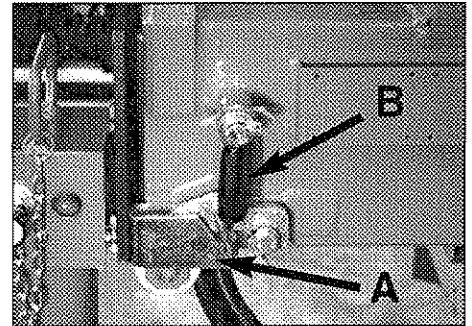
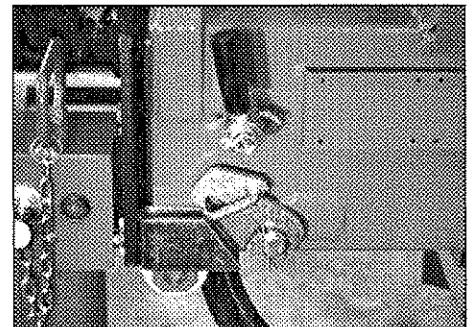
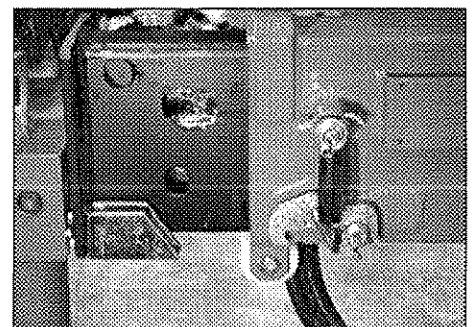

fig. 13
fig. 14
fig. 15
- Disengage the locking device of the outrigger support by putting the lever **A** from the position of the fig. 13 to the one of the fig. 14
- Position the lever **B** of the locking device (fig. 13), placed on the base, upwards; the spring loaded security pin of the device will be released from it's position.
- Position the lever **B** downwards; the locking loaded security device remains released. (Fig. 15)
Keep hands clear of automatic stop device (lever A from the position of the fig. 15 to the one of the fig. 13).